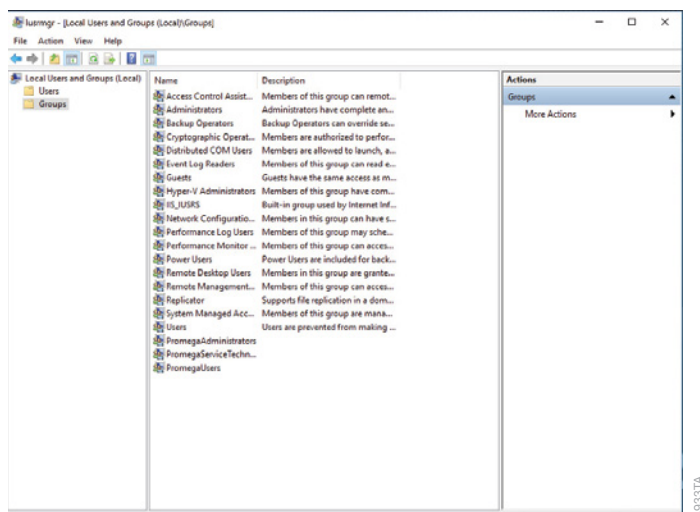

Figure 61. Groups folder. Access the PromegaAdministrators and PromegaUsers groups from the Groups folder on the 'Local Users and Groups (Local)' screen.
4. Double-click the **Groups** folder in the center part of the window to open the folder (Figure 61).